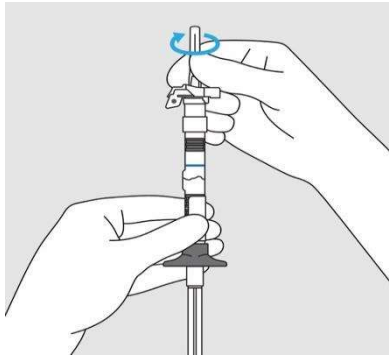

Figure 7: Twist needle to tighten
8. Without removing the needle cap, twist the needle to the right (clockwise) to ensure it is secured tightly. (Figure 7)